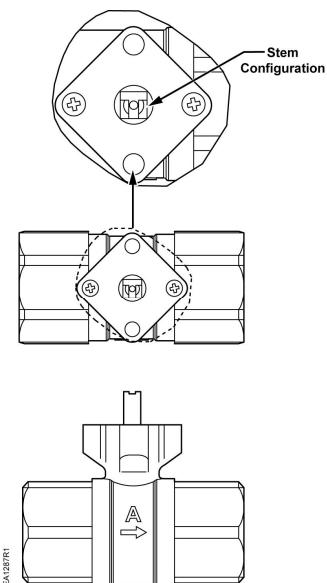

Figure 2. Installed Valve Fully Open Valve and Stem Configuration.
- **Installed Valves.** Check the stem position with respect to the flow arrow imprinted on the valve. See Figure 2.
- **Installed valves** - Check the stem position with respect to the flow arrow imprinted on the valve. See Figure 2. Rotate the stem 90° from how it is shown in Figure 2 to close the valve.